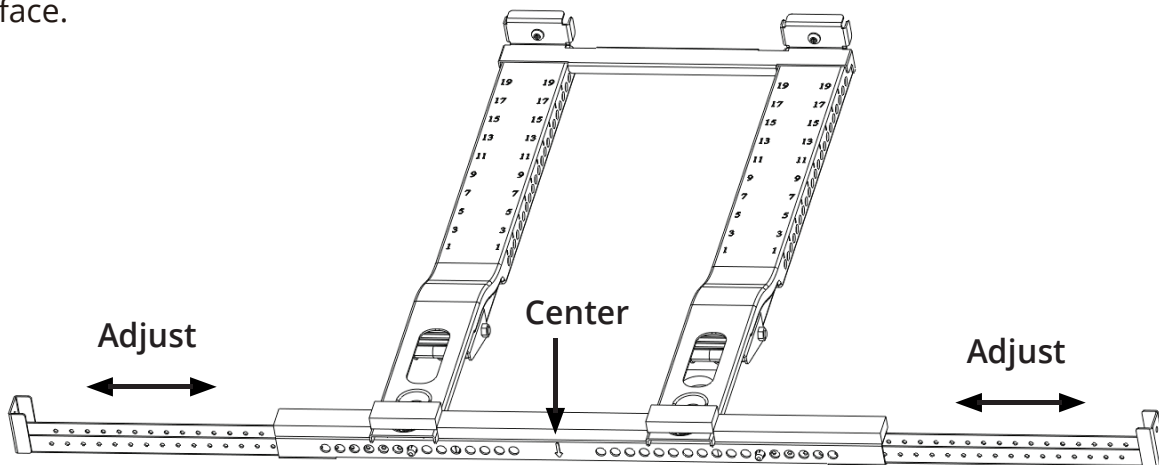

Fig. 2
B. Press spring-loaded push pin of the **Left Extension Arm** located on the **Horizontal Bracket** and adjust the arm outward. Then, install the **Right Extension Arm** into the right side of the **Horizontal Bracket**. Please refer to **Fig. 2**.